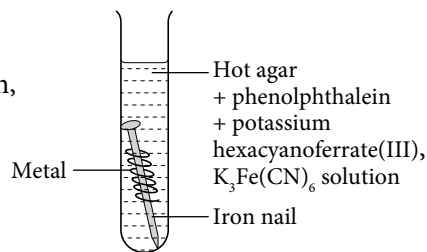

Figure 1.42
4. Put each nail coiled with metal into test tubes P, Q, R and S respectively as in Figure 1.42. The nail with no metal coil is placed into test tube T.